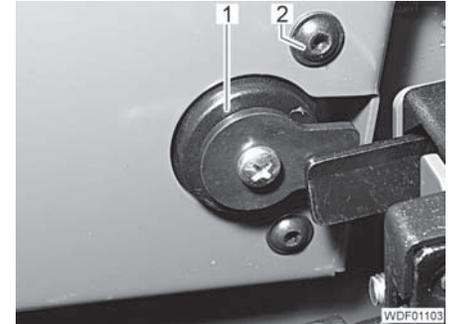

Fig. 384 Door handle attachment
- Unscrew the 2 screws (Fig. 384,2).
- Remove the handle (Fig. 384,1) outwards.
- Screw in and tighten the 2 screws (Fig. 384,2).